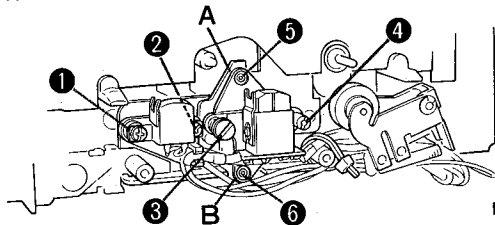

Fig. 6
2. Remove the screws 1 and 2 in Fig. 6 and then replace the erase head. Lock the screws 1 and 2 as not to loosen.
2. Remove the screws 3 and 4 in Fig. 6 and then remove the record/playback head. A and B sections in Fig. 6 are locked with paint, so you can remove the head easily by coming it off.
3. Attach the record/playback head by turning the screws 3 and 4 in Fig. 6 provisionally. You may turn the screw 3 fully, but the screw 4 is for the azimuth adjustment and the screws 5 and 6 are for the positional adjustment. So you should refer to the mechanical adjustment step 1 to 3 and electrical adjustment step 2. And after completing the adjustment, apply screw lock paint.